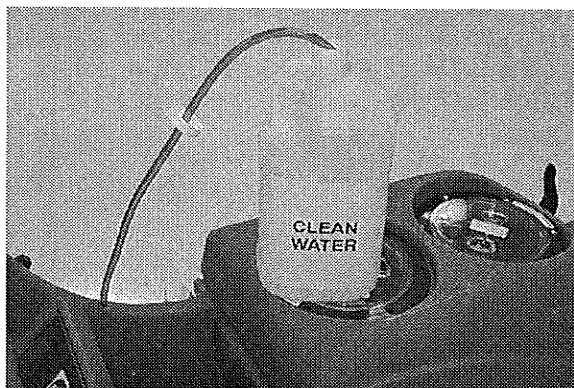

FIG. 39
- c. Submerge end of injector tube into a gallon container of clean water (Figure 39).